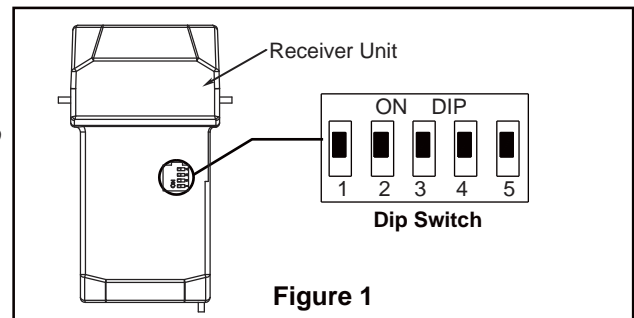

Figure 1
1. To set the code on receiver unit, slide dip switches to the same positions as set on the remote. (Figure 1)